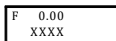
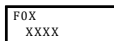

Figure 1
Figure 2
Step 1: Press OK on the normal display interface to display Figure 1 (Instantaneous frequency can be seen in this interface). Enter your 4-bit password by pressing Shift and Inc. Press OK to enter into setup sub-menu, as shown in Figure 2.